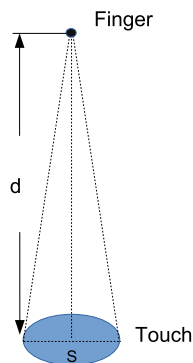

Figure 36-6. Sensing Area
- The maximum detection distance (d) is 16 cm with a sensing area of 20 cm^2 (S), where d is positively correlated with S as shown in Figure 36-6.